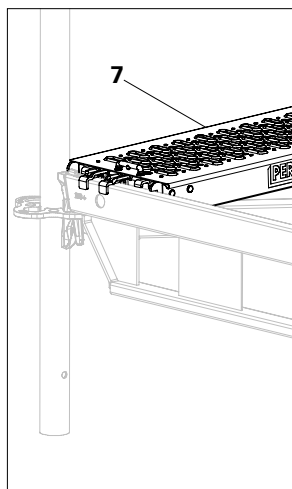

Fig. A9.03
1. Install the first Deck UDG (7) with the head in the Ledger UH of the first frame. (Fig. A9.03)